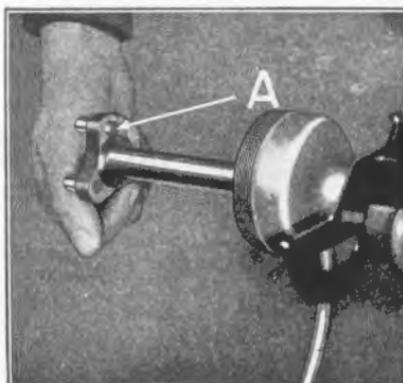
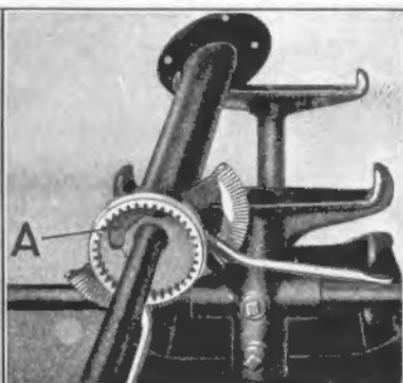

Fig. 394
Fig. 395
- 767** The post is installed by inserting the tapered end through internal gear case bushing and tubing making sure that pin, which protrudes through spider on steering gear post (See "A" Fig. 394) enters slot in internal gear case (See "A" Fig. 395).